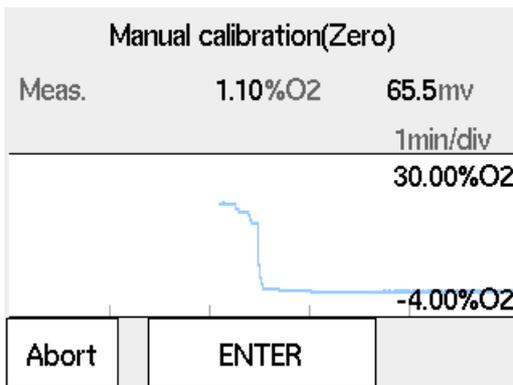

Figure 6.22 Trend in Zero gas calibration
- (8) Similar to span calibration, selecting “Start calibration” displays the trend graph of the oxygen-concentration reading being measured (Figure 6.22) on screen. Wait for the reading to stabilize near the zero gas concentration by monitoring the graph and the sensor electromotive force. At this point, calibration is not yet executed, so it is acceptable for the reading to deviate from the zero air concentration.